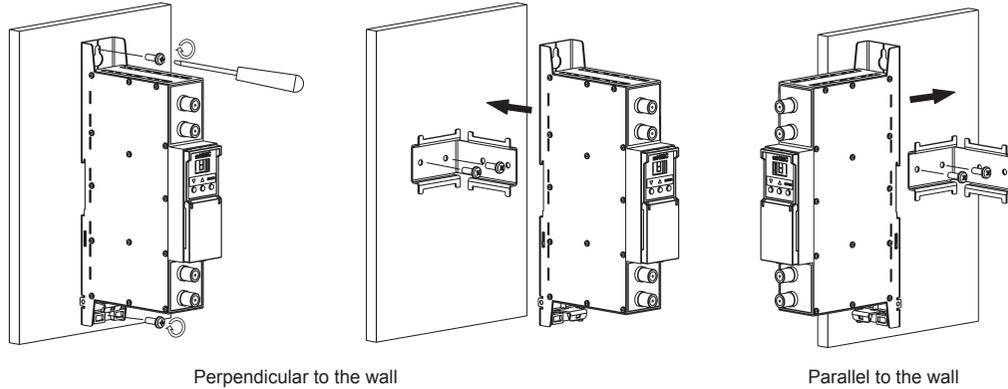
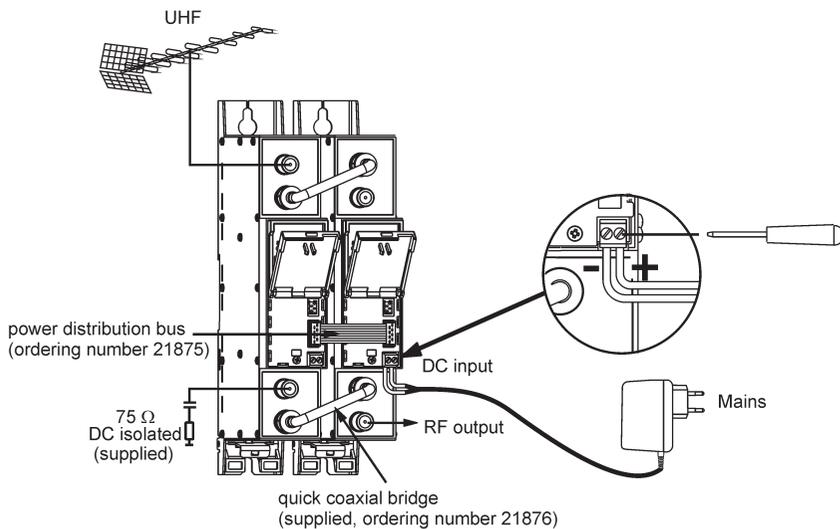

Figure 2. Mounting of amplifier
Figure 3. Powering of amplifier
DC power should be connected, after at420 mechanically placed into position (Figure 2, 4 and connected Figure 3).
If RF IN connector (5) is not used, connect the 75Ω isolated load supplied (Figure 3).